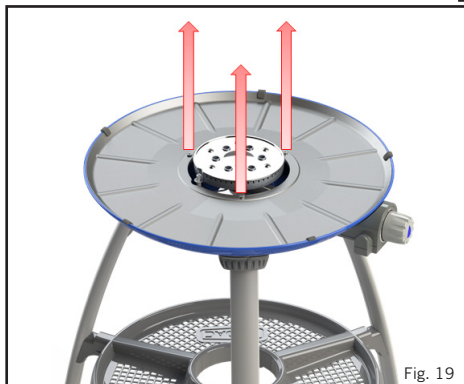
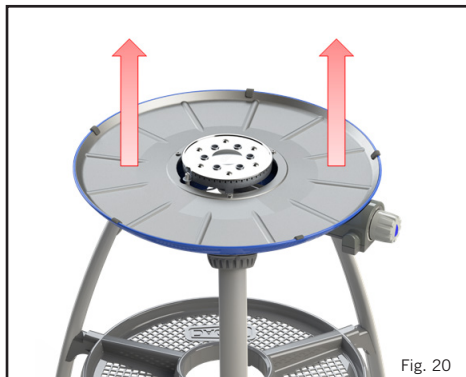
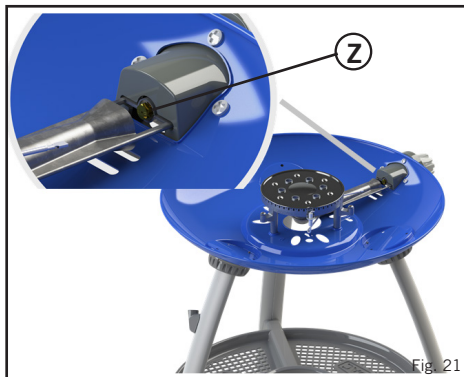

Fig. 19
Fig. 20
Fig. 21
- **To replace the jet:** Remove the three screws from the heat shield plate (Fig. 19). Remove the heat shield plate (Fig. 20), taking care not to damage the piezo electrode. The jet (Z) can now be removed using a suitable spanner (Fig. 21). Do not use pliers on the jet as this may damage the jet, making it unusable or impossible to remove. Screw the new jet into the valve. Do not over-tighten as this may damage the jet.